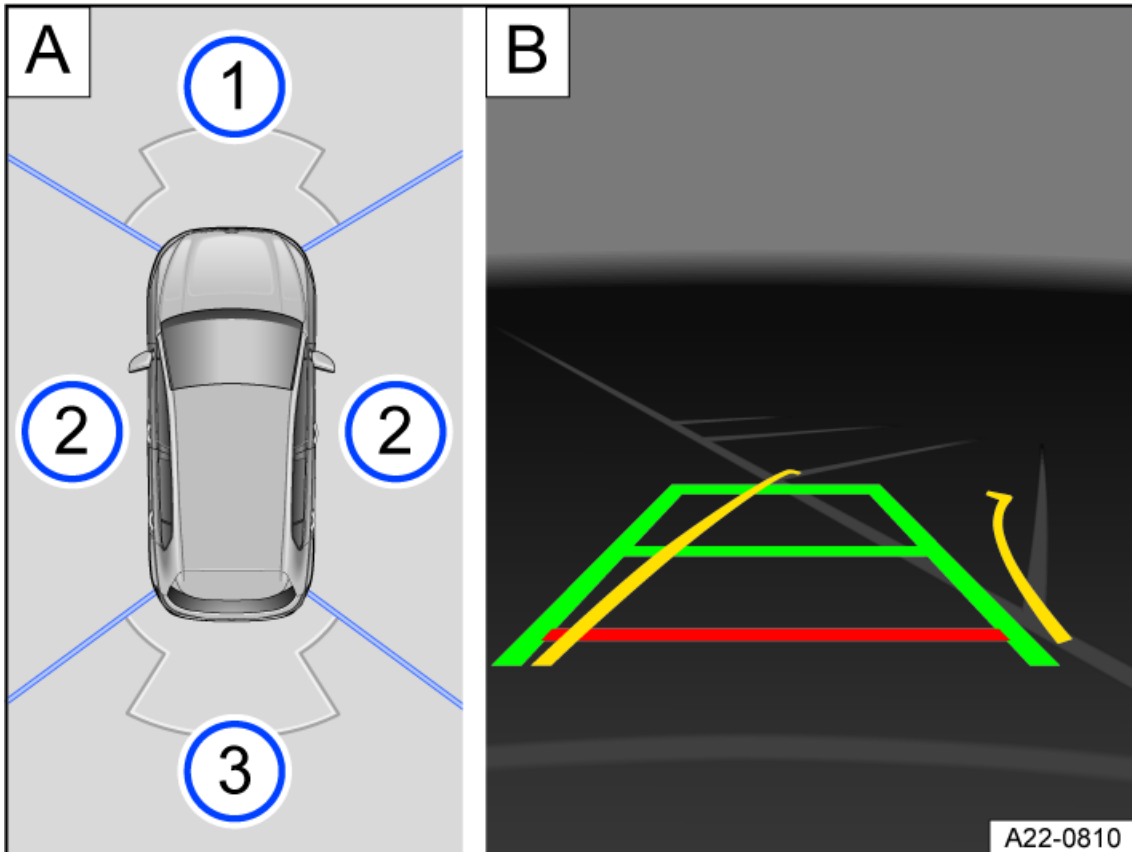

Fig. 115 Infotainment system: Area View with "Perpendicular parking mode" camera image (general example).
Two sections of the screen will be shown in the Infotainment system *fig. 115:*
1. To display the preferred camera image on the right fig. 115 B, tap the front, rear or side screen area on the left fig. 11 A.